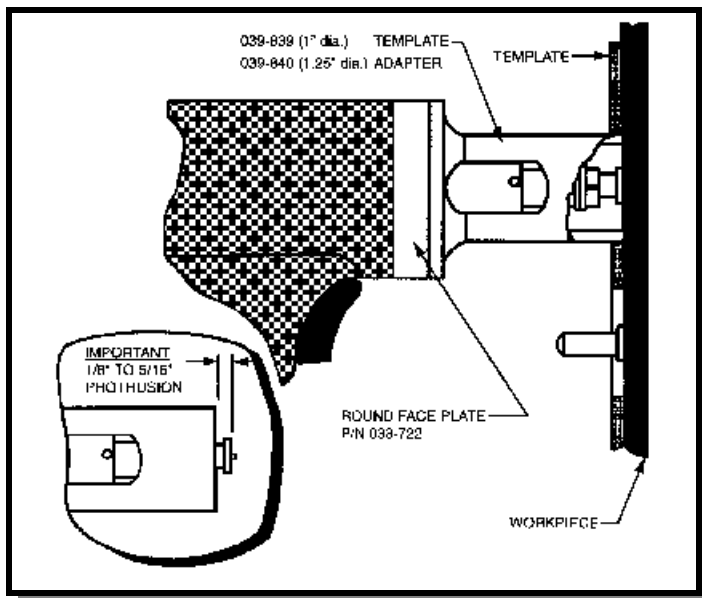

Figure 7 Template Adapter gun setup
11.4 TEMPLATE ADAPTER (see Figure 7)